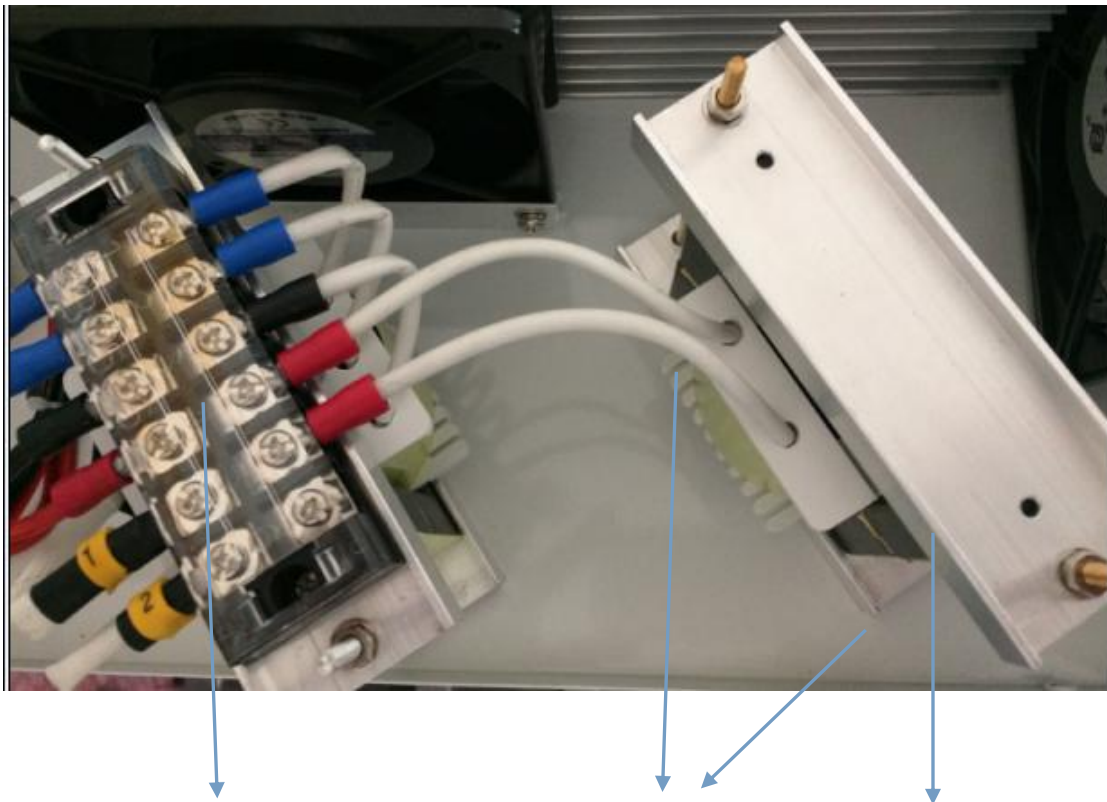

Fig. 3 **Transformer** **Increase (decrease) inductance gasket** **Matching inductance**
4. Loosen the nut fixing the inductor (right in Figure 3) with M7 sleeve and retreat to the top, take out the inductor and cut off the black electrical tape on the magnetic core, and take out a yellow gasket on each side (every two sides before leaving the factory).
6. Observe the frequency at which the maximum current is close to the working current, and then pad the height of the inductor core to the height of the maximum current with insulating sheets, and the pads on both sides are the same thickness. (The upper screen shows that the maximum current at the frequency of 29k is not close to the working current, so the transformer (left in Figure 3) is put into 2nd gear to repeat step 5. If the transformer is in the first gear and the maximum current with the frequency of 27k is higher than the working current, just use the gasket to directly lock the nut after the working current is placed, or reduce the power indicator light to be close to the working current and save it.